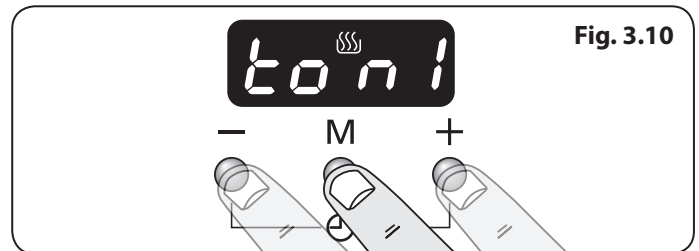

Fig. 3.10
1. Press the the [+] and [-] buttons simultaneously, then the mode [M] button. The display will show 'ton1,2 or 3' (Fig. 3.10).